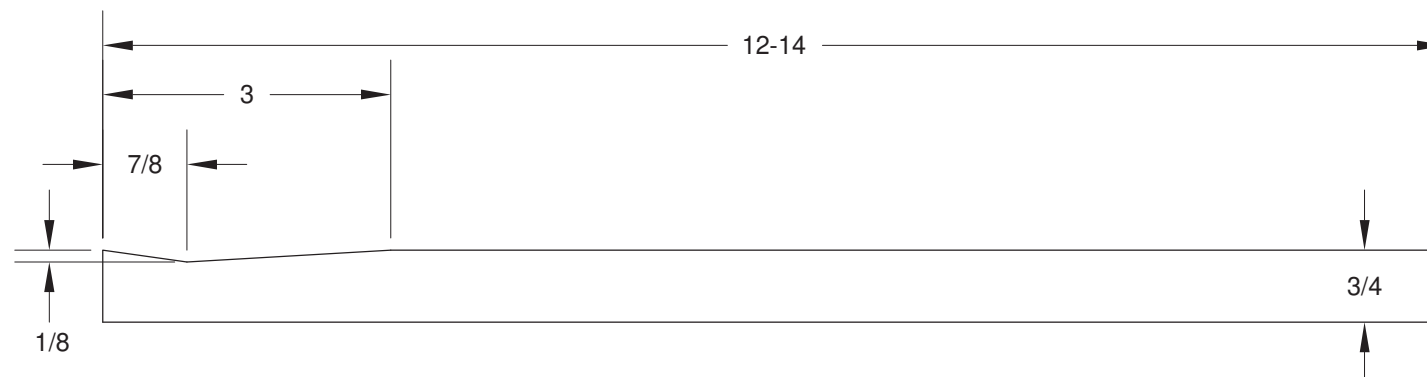

FIGURE 2: BUCKING BAR DIMENSIONS
Step 1: Rivet the E-1007 Rear Spar to the E-1001B Bottom Skin on the right elevator (see Page 9-11 for part reference) using the rivets called out on Page 9-21, Figure 2. The portion of the rear spar along the trim tab cut-out (the area that doesn't have the skin hanging beyond the spar) can easily be riveted with a rivet squeezer. Riveting the rest of the spar requires some set-up work. Turn the elevator over on a work bench, align the edge of the rear spar flange with the edge of the bench, then spring clamp the spar flange to the work bench (see Figure 1). You can then reach under the skin with a bucking bar and rivet the spar.
Step 5: Rivet the second flange of the E-1007 Rear Spar to the E-1001B Bottom Skin of the left elevator. (Rivet the skin of the left elevator first to give you some practice before riveting the more visible top skin on the right elevator.) Position the elevator on the work bench, as shown in Figure 3, with the edge of the work bench extending slightly beyond the elevator trailing edge. Insert the bucking bar made in Step 3 between the skins, and, with the bar resting on the edge of the work bench, rivet the spar to the skin using the rivets called out on Page 9-21, Figure 2.